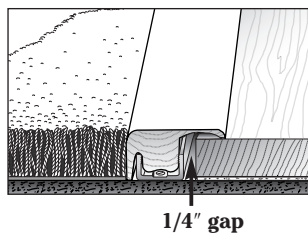

Fig. 30
Use when laminate flooring ends against a vertical surface and where quarter round or wall base cannot be used — e.g. in front of a sliding glass door or under a toe kick. Additionally, the finished edge to this piece makes it an ideal fit against carpet (Fig. 30).
2. Install the laminate floor up to the spacer block using spacers to obtain 1/4" (6.35 mm) expansion zone (Fig. 30).